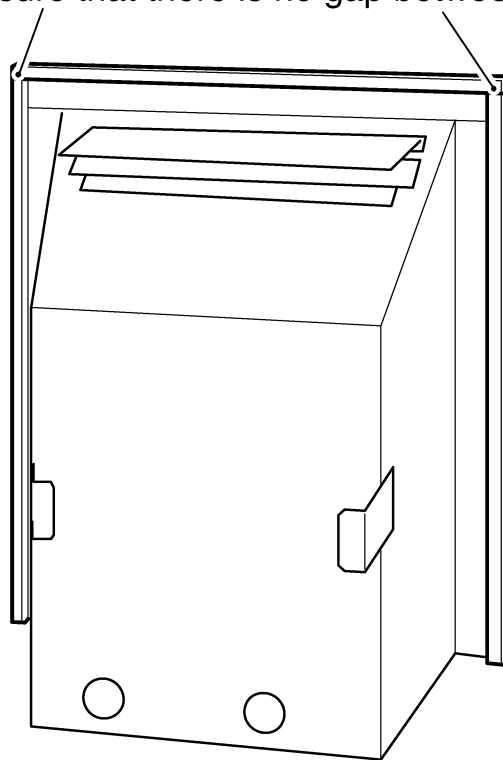

Figure 15. Fitting the foam seal
**9.** There is a length of self adhesive foam seal supplied with the fire. This will need to be fitted to the outer rear edges of the side and top flanges of the hotbox. Cut a 485mm length of foam seal. Be careful not to stretch the seal when measuring. Remove the protective backing from the foam seal and fit this to the rear of the top flange (See figure 15). Cut two 580mm lengths. Fit these to the rear outer edges of the side flanges. Ensure that there is no gap between the foam seals where they meet at the top flange (See figure 15).